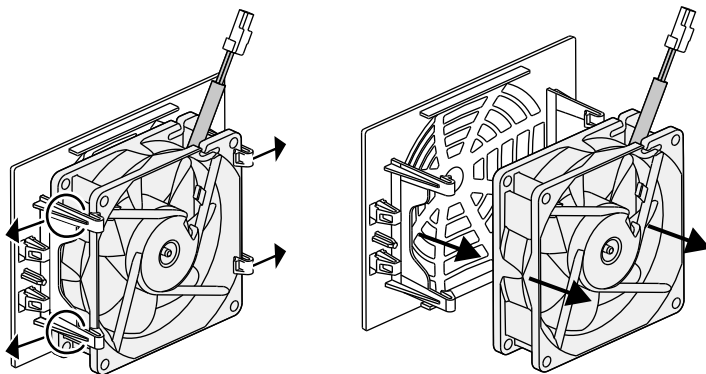

Fig. 72: Disassembly of the fan grill
5. The fan can also be pulled off the fan grill. To do this, press the fastening straps slightly outward and pull off the fan.  **Fig. 72**